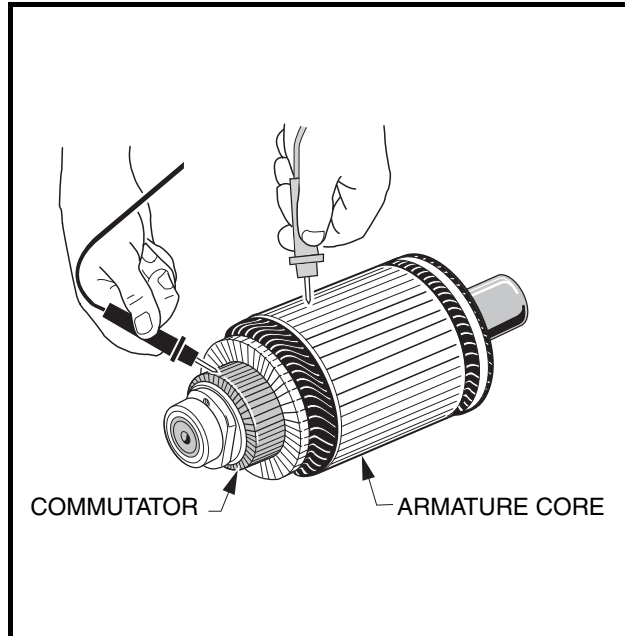

Figure 15-6 Armature
1. With a multimeter set to 200 ohms, place one probe on the commutator and the other on the armature core. The multimeter should indicate no continuity (**Figure 15-6, Page 15-6**). If the reading is incorrect, replace the armature.